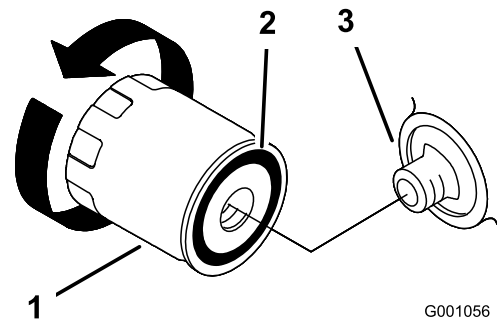

Figure 26
- Remove the old filter and wipe the filter-gasket surface (Figure 26).
- Apply a thin coat of new oil to the rubber gasket on the replacement filter (Figure 26).
- Install the replacement oil filter to the filter adapter, turn the oil filter clockwise until the rubber gasket contacts the filter adapter, then tighten the filter an additional 2/3 to 1 turn (Figure 26).